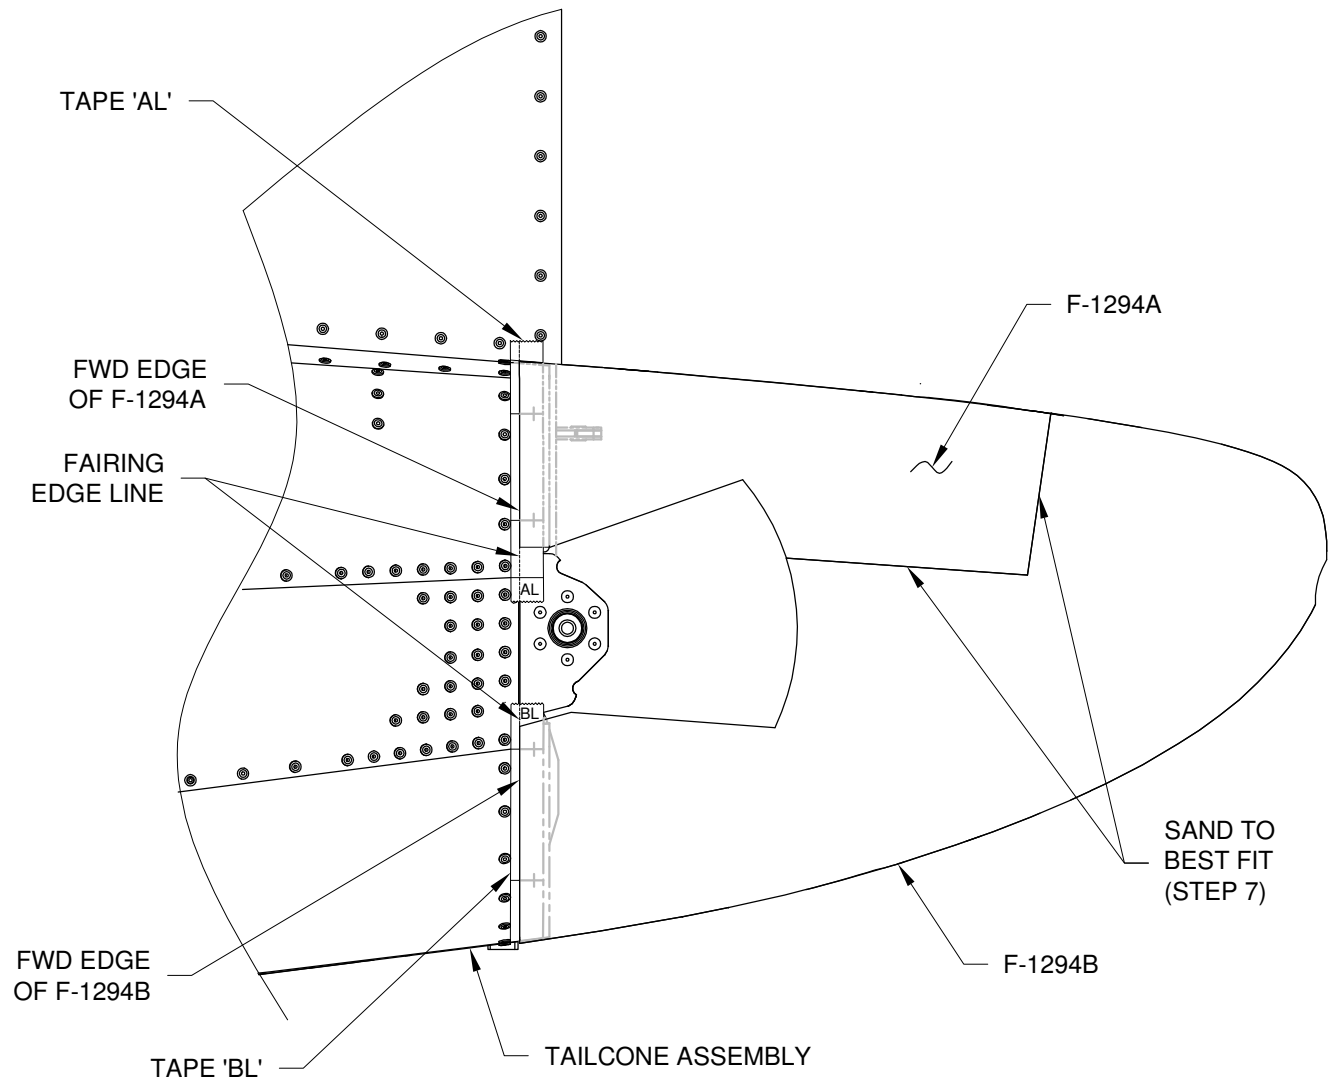

**FIGURE 2:
Step 3: Drill a hole using a step drill bit in the F-1294A Upper Tailcone Fairing as shown in Figure 2. Drill two holes in each side of the upper tailcone fairing at the locations shown in Figure 2. Place the perimeter of the hole as close to the scribe line as possible.
Step 4: Trim excess material from the F-1294A Upper Tailcone Fairing as shown in Figure 2. Cut close to the scribe line, then use a sanding block to finish the edge to the scribe line.
Step 5: Align the forward edge of the F-1294B Lower Tailcone Fairing to the fairing edge line (Ref Page 12-05, Figure 2) on tape 'BL' and 'BR' as shown in Figure 3. Temporarily tape or clamp the lower tailcone fairing to the tailcone.